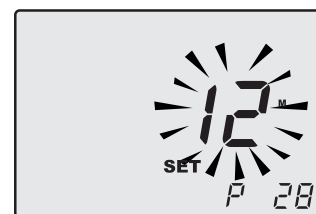

Fig. 9.3
- Scroll through the various parameters using key 15 or 16 until the LCD display indicates the letters **P28** and the value of the parameter, indicating entry in "parameter 28" (Fig. 9.3).